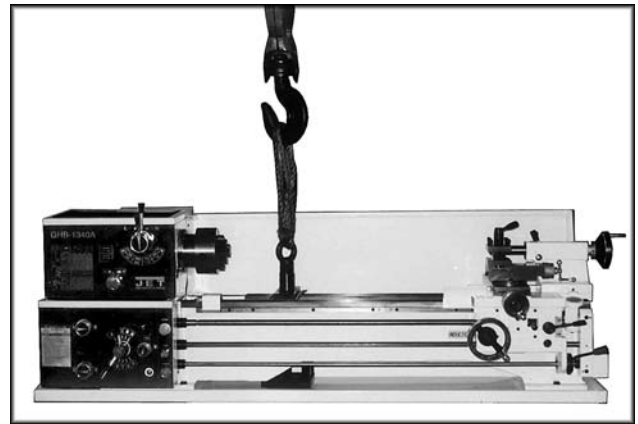

Fig. 1
4. Assemble parts fastened to the crate bottom used to lift the lathe. See Fig. 1. (**Note:** Lifting parts are not tightened in Fig. 1 to show detail.) Using a piece of leather or a block of wood under the metal block to protect the ways during lifting is highly recommended.